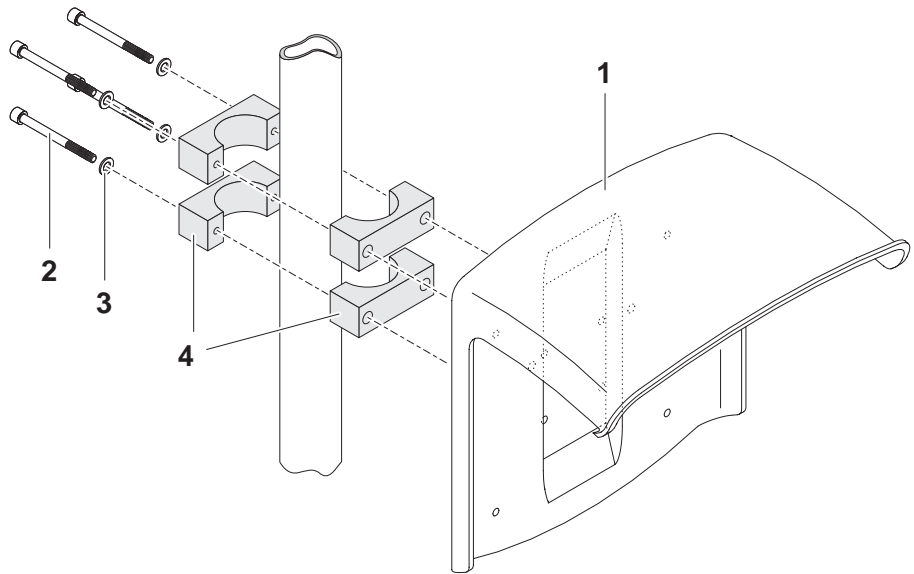

Fig. 3-8 Mounting the SSH/IQ sun shield on a mounting stand
- 1 Screw the sun shield (pos. 1 in Fig. 3-8) with the four hexsocket head screws (pos. 2), the washers (pos. 3) and the clamps (pos. 4) at the required height on the mounting stand from the back.